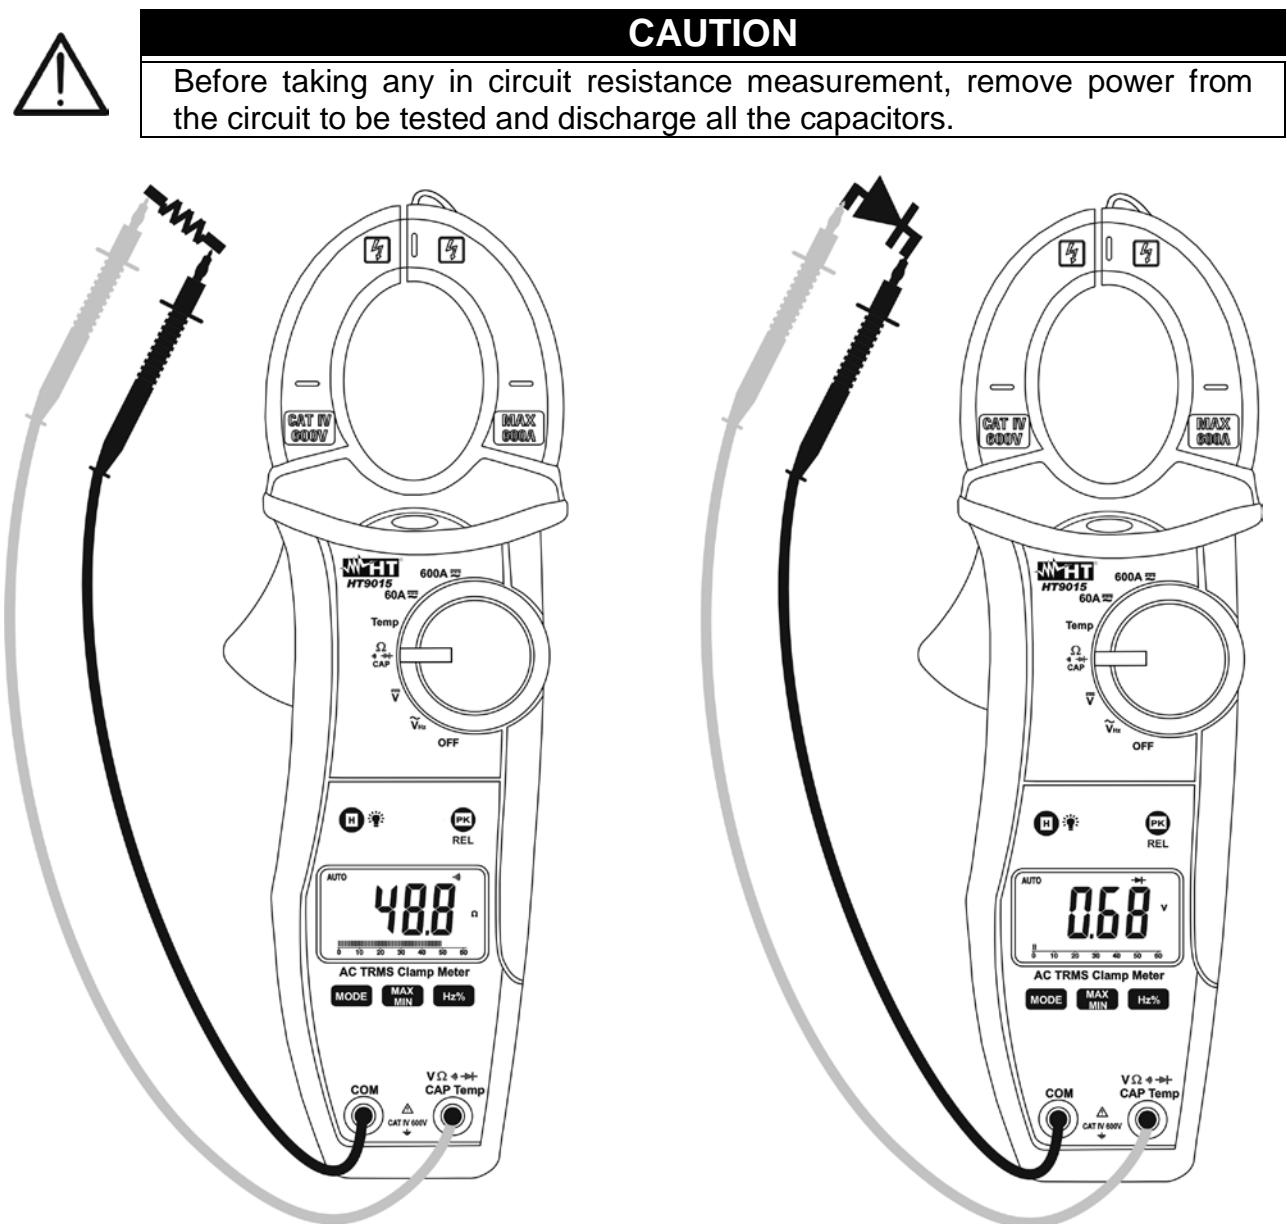

Fig. 6: Taking Continuity test and Diode test
3. Insert the red test lead plug into **VΩ → CAP Hz% Temp** jack and the black test lead plug into **COM** jack and perform continuity test on the object under test (see Fig. 6 – left side). Buzzer emits sound if the measured resistance value is less about 60Ω
5. Connect the red test leads to the anode of diode on test and the black test lead on the cathode ones (see Fig. 6 – right side). Reverse position of test leads to reading reverse polarization voltage